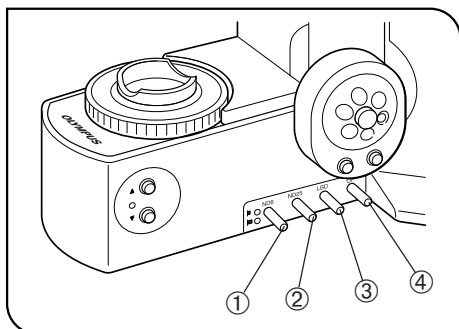

Fig. 6
### 4 Using the Filters (Figs. 6 - 11)
**Using Built-In Filters (Fig. 6)**